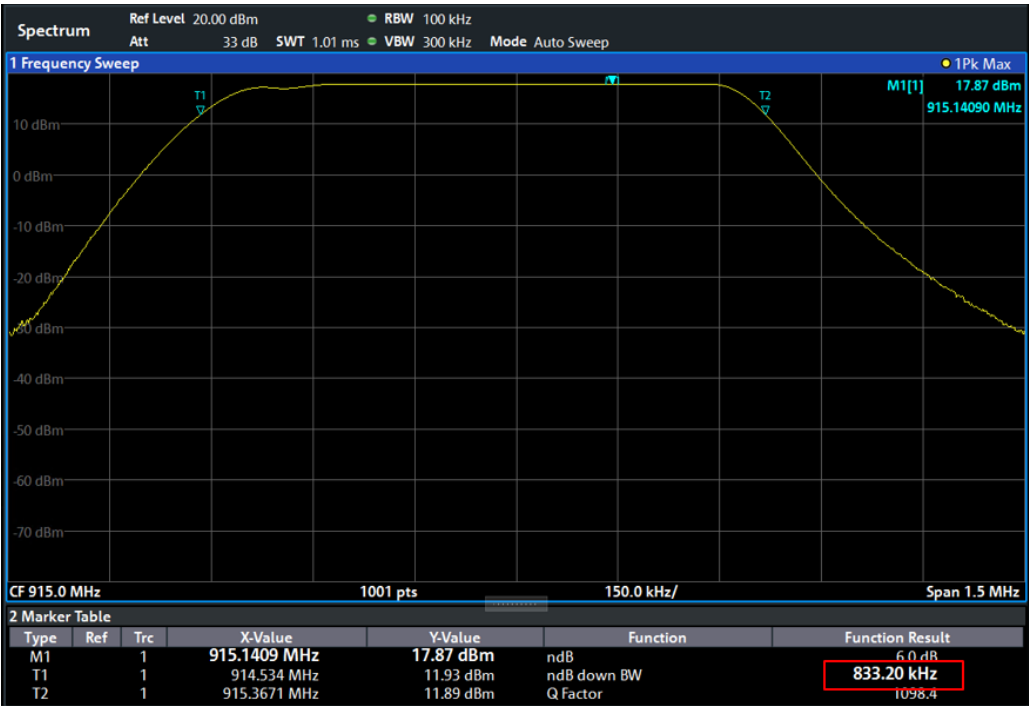

Figure 2-2: Measurement of 6 dB bandwidth with SF = 7
- 9. The following condition must be fulfilled: *ndB down BW* ≥ 500 kHz (Figure 2-2).